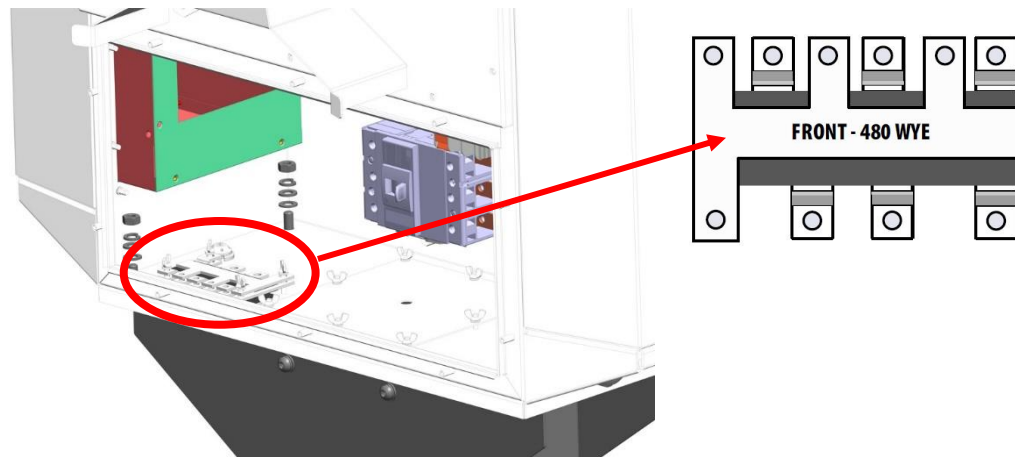

Figure 31 – Shipping/Storage location of three Configuration Bus Bars shown, anchored with wingnuts in bottom of EV charger (top one showing its FRONT stamp)
6. Locate shipping/storage location of 3 Configuration Bus Bars anchored with wingnuts in bottom of charger (Figure 31).
7. Remove wing nuts anchoring configuration bus bars together in the bottom of charger, select the one needed for this installation (refer to Step 5), such as the sample shown in Figure 31, and then re-anchor the two spare configuration bus bars in their original shipping/storage location.